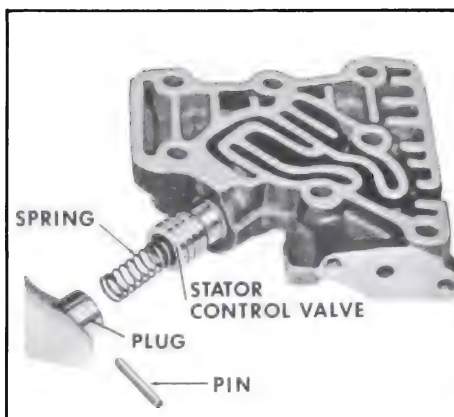

Figure 5-177
body. Compress plug and install retaining pin. See Figure 5-177.
1. Remove low servo piston seal. See Figure 5-177-A.